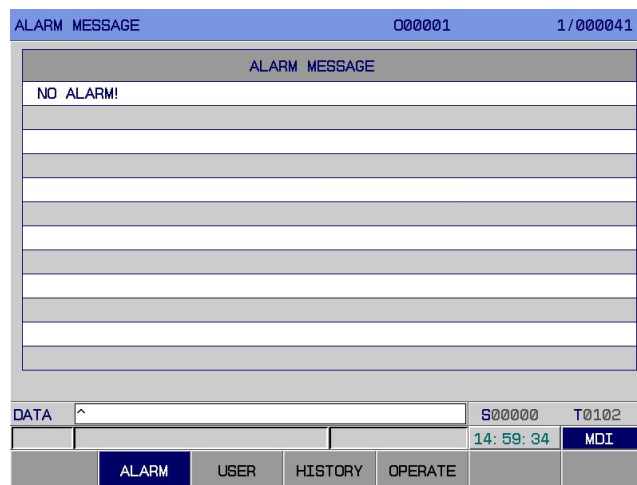

Fig.3-7-1
It contains 4 display interfaces: [alarm], [user], [history], [resume], which are switched through corresponding softkeys (See Fig.3-7-1 ~ Fig.3-7-4). It is allowed to set whether to switch to alarm interface or not in the case of an alarm, through Bit Para N0: 24#6.
1. Alarm interface: On <alarm> interface, press [alarm] to enter the alarm interface, as shown in Fig.3-7-1: